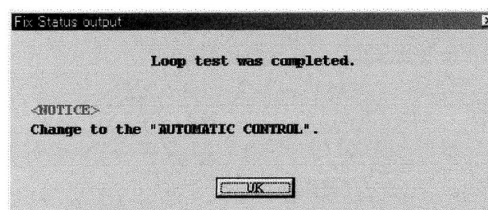

Fig.91
- ⑤ In response to clicking on "Stop" button, a message box like the one shown in Fig. 91 appears. Click on "OK" button.